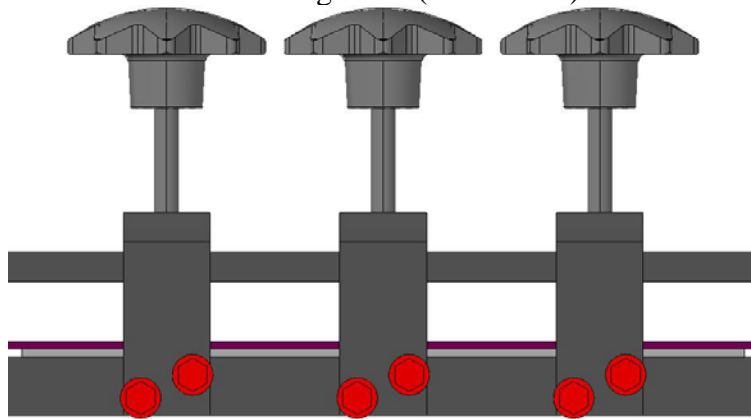

Figure 5
10. Gently Place the rubber cushion strip on each jaw as even as possible allowing the rubber to over hang on each end. Ref. Figure 5
11. Carefully lower the cushion setting tool top plate on the positioned jaws. Ref. figure 5